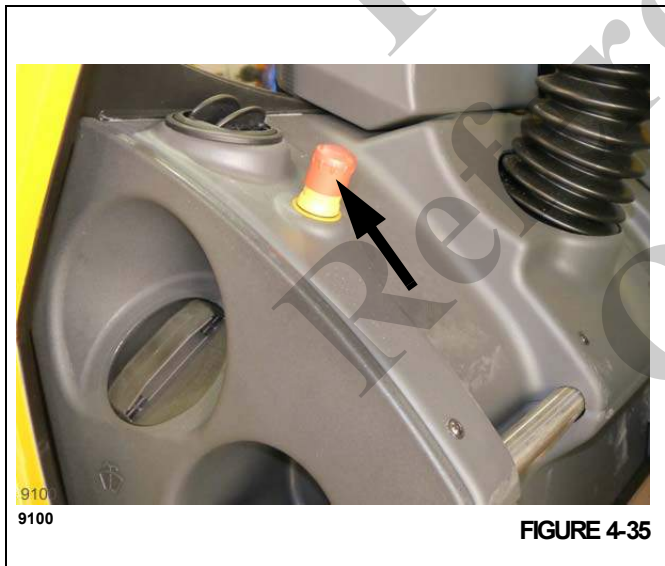

FIGURE 4-35
- Press the emergency stop switch (Figure 4-35) so that it engages.